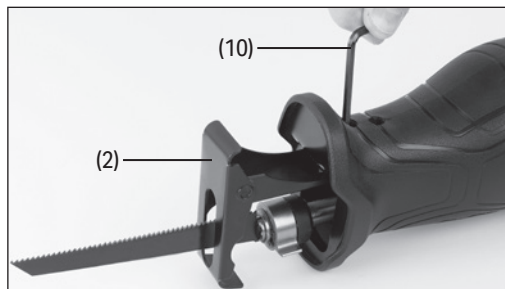
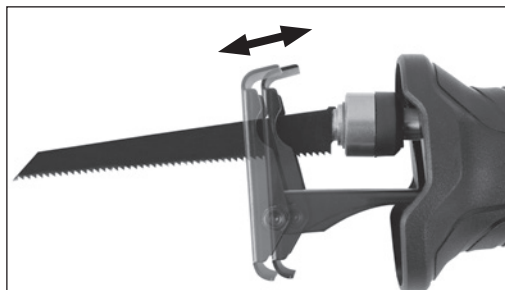

Fig.2
Fig.3
6.2 Adjustable Foot (Fig.2 – Fig.3)
- The adjustable foot (2) can be moved backwards and forward to allow the entire length of the blade to be used.